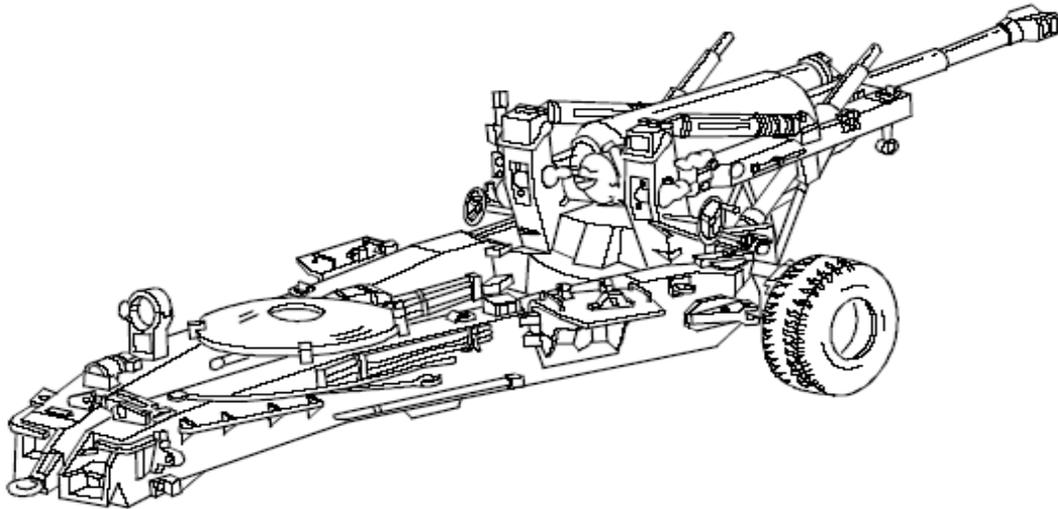

Figure 2-12. M198 howitzer in the towed position
The M198 155-mm towed howitzer (Figure 2-12) is designed to provide direct support (DS) field artillery fire in the light infantry divisions. The M198 is an extended-range, split-trail weapon that can be towed by vehicle or airlifted by a CH-47D helicopter. The carriage has a retractable suspension system and a top carriage, which can be rotated 3,200 mils to decrease overall length for shipment or storage. The lightweight M198 howitzer has a low profile, may be emplaced rapidly, and has a 6,400-mil speed shift assembly.